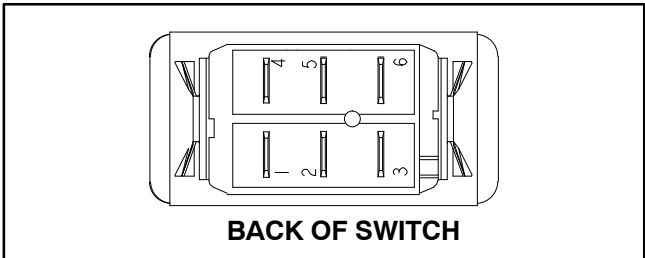

Figure 12
- 4. With the use of a multimeter (ohms setting), the headlight switch functions may be tested to determine whether continuity exists between the various terminals for each switch position. The switch terminals are marked as shown in Figure 12. The circuitry of this switch is shown in the chart below. Verify continuity between switch terminals for each switch position.